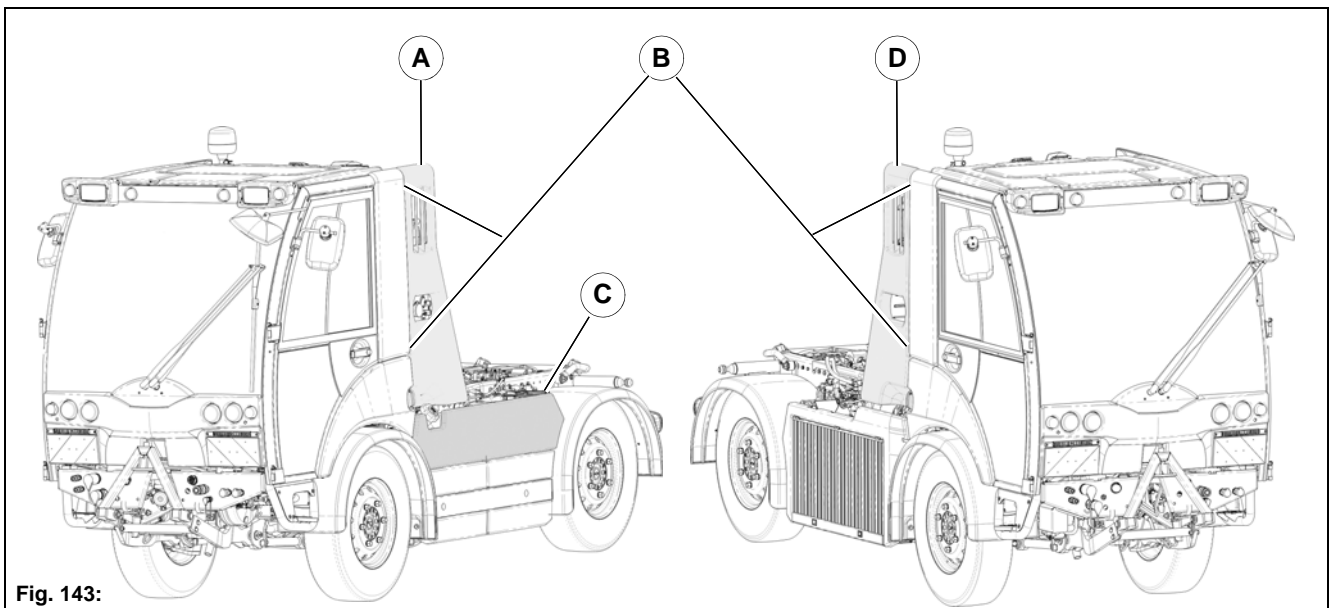

Fig. 143:
2. Loosen the six fastening bolts **Fig. 143-B** and remove the side cover **Fig. 143-A**.
2. The side flap **Fig. 143-C** is fixed with magnets and can be opened by hand.
2. Loosen the six fastening bolts **Fig. 143-B** and remove the side cover **Fig. 143-D**.